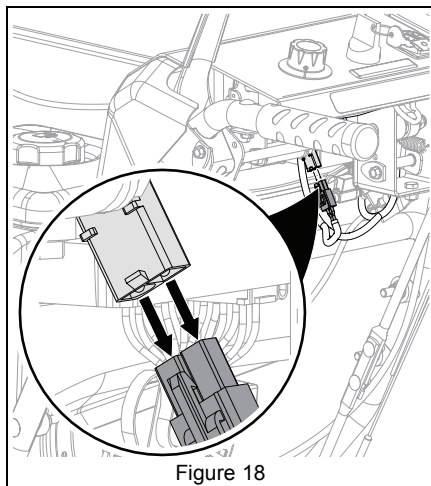

Figure 18
1. Disconnect battery connector. See Figure 18.
4. Reconnect battery connector when battery is ready for use. See Figure 18.